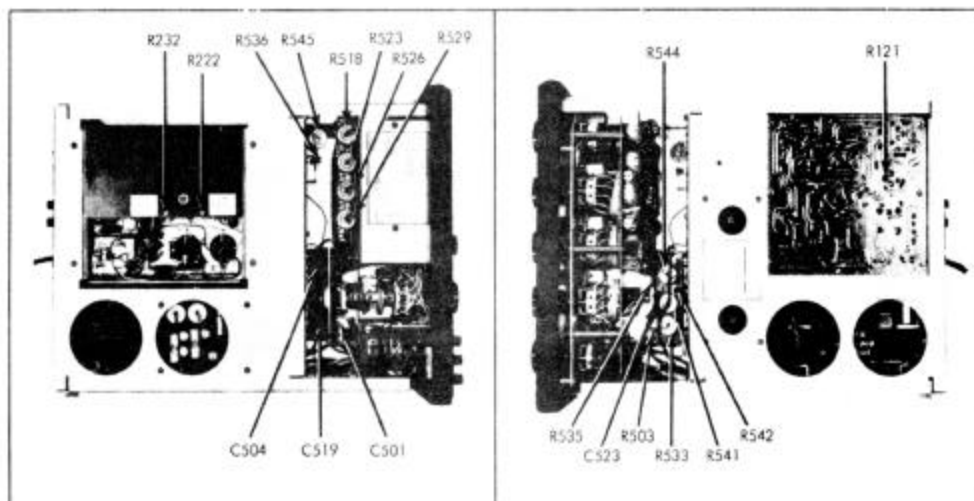

Figure 4-4. ADJUSTMENT LOCATIONS
a. GENERAL. The calibration procedure is divided into two main parts: DC differential voltmeter calibration (paragraph 4-4b) and AC to DC converter calibration (paragraph 4-4c). The 803D may be calibrated as often as deemed necessary. However, it is recommended that DC differential voltmeter calibration be done every 3 months. The AC to DC converter calibration should be done every month. For special applications where extreme accuracy is required, it may be desired to calibrate the instrument more often. Calibration should be accomplished in a draft-free area with an ambient temperature of 72(±3)°F for maximum accuracy under laboratory conditions. The recommended equipment and the specifications required for calibration are shown in figure 4-3. All controls on the cabinet model may be located with the aid of figure 4-4. The instrument must be calibrated in its cabinet. The ventilation holes on the cabinet model provide an easy means of reaching R121, R222, and R232. An insulated screwdriver must be used when adjusting these controls to prevent shorting the control to chassis ground. To reach the calibration controls at the front of cabinet models, the instrument must be slid partly out of its cabinet. On rack models, all controls may be easily reached through labeled access holes.